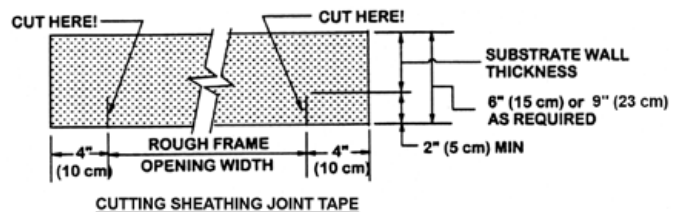

Fig. 13.3
3. Cut a piece of Parex USA 396 Sheathing Tape 8 in. (203mm) longer than the rough opening. Embed Sheathing Tape into Parex USA WeatherSeal and install on the sill and up the jambs with at least 2 in. (51mm) protruding to the outside of the opening. Make a cut at each corner to form three "flaps" (Fig 13.3).